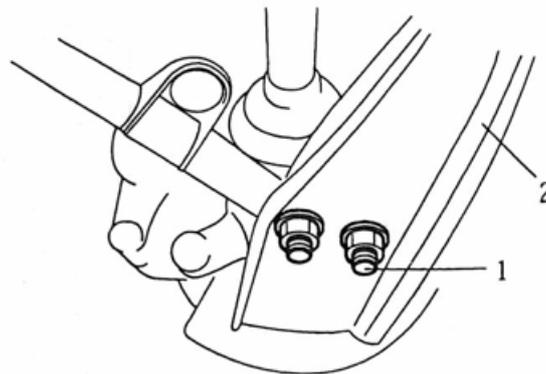

FIG.14-20
- (4) Remove the nut connecting tension bar and lower arm (FIG.14-20).
- (3) After install the bolts connecting tension bar and lower arm, tighten nut to specified torque (FIG.14-20).